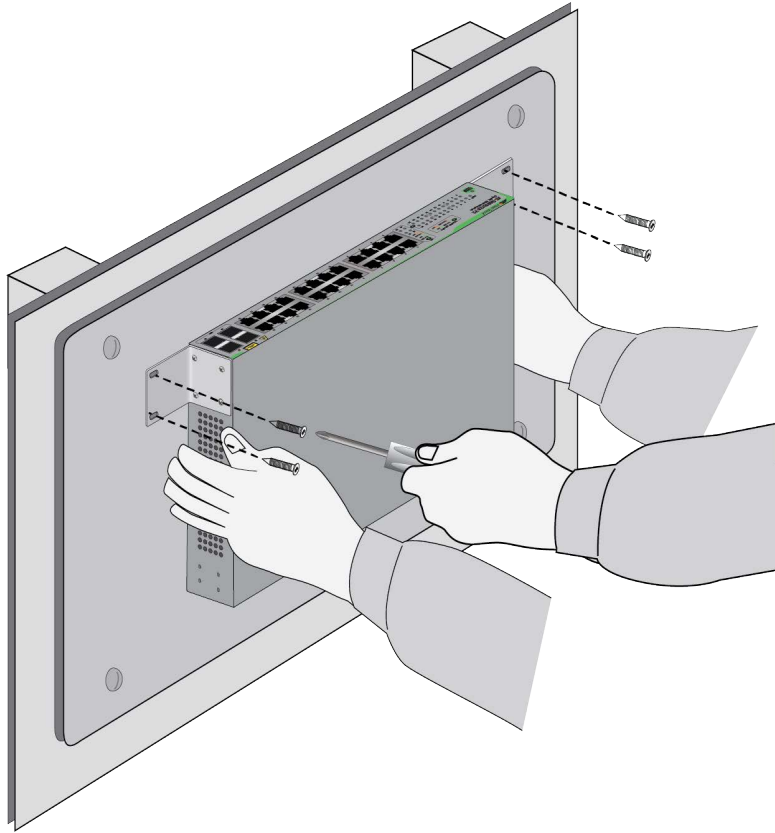

Figure 47. Attaching the Switch to the Plywood Base
3. Have another person hold the switch on the plywood base on the wall while you secure it with the four provided screws. Refer to Figure 47 on page 69.